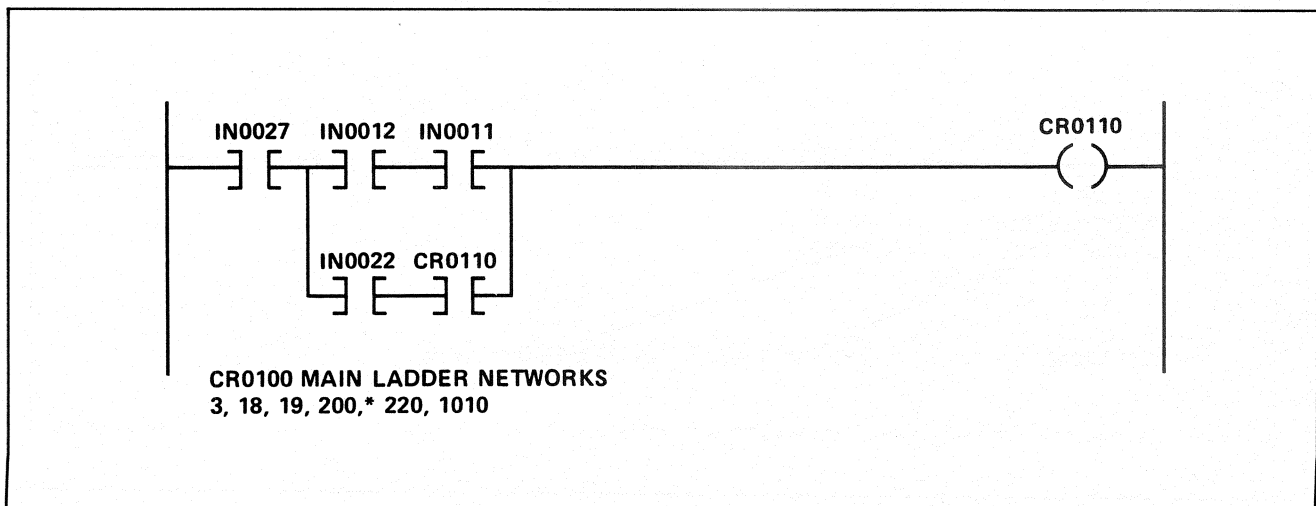

Figure 4-4. I/O Cross Reference Numbers
2. Ladder diagram with I/O cross referencing, where the networks numbers containing the coil are printed directly below each network. (See Figure 4-4.)